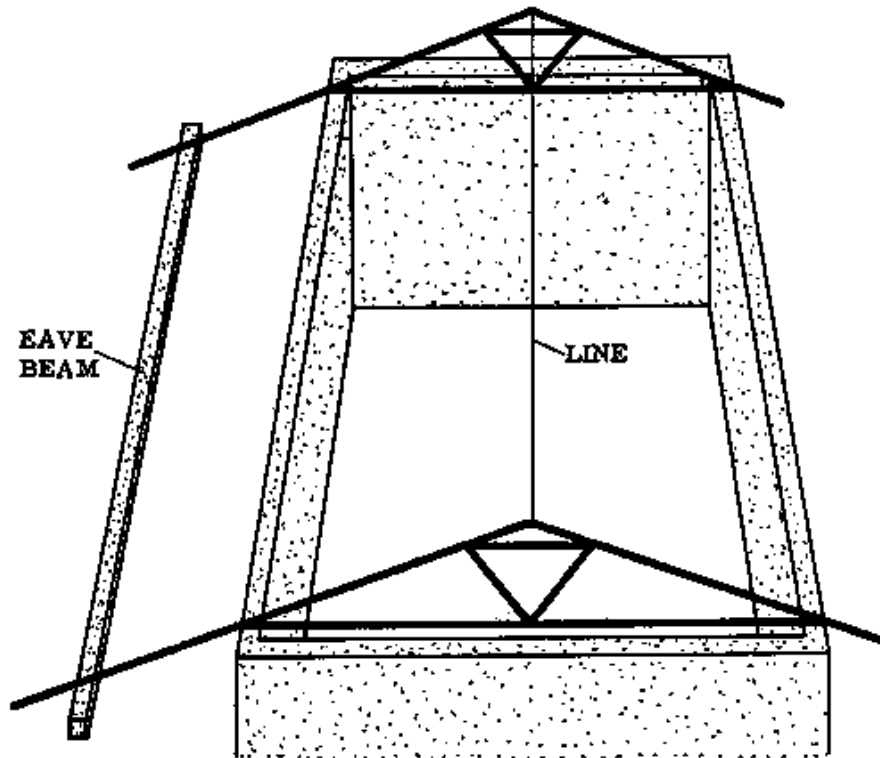

Fig. 2
b. Turn the trusses over and plumb them (Fig. 2).
d. Fix a line from one ridge to the other (Fig. 2).